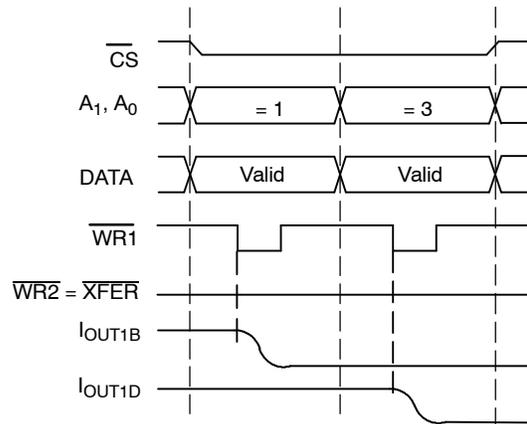

Figure 8. Individual DAC Update
- 2) Individual DAC update. The condition $\overline{WR2} = \overline{XFER} = \text{low}$ makes the DAC latches transparent. A writing to the B1/B2 latches updates the DAC outputs (Figure 8.).